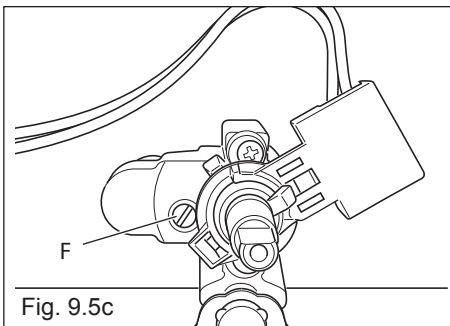

Fig. 9.5c
- With a thin screwdriver turn the screw "F" until adjustment is correct (fig. 9.5c).